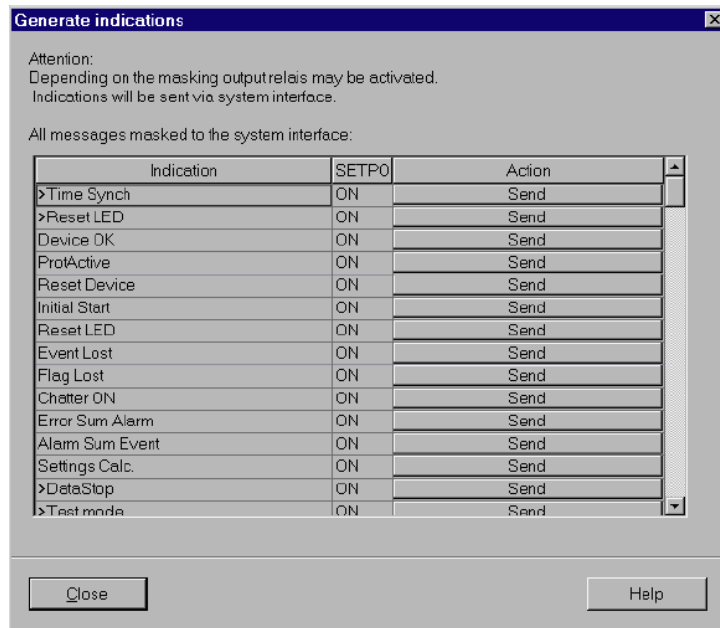

Figure 3-23 System interface test with dialog box: Generating indications – Example
- Double-click on **Testing Messages for System Interface** shown in the list view. The dialog box **Generate Indications** is opened (see Figure 3-23).